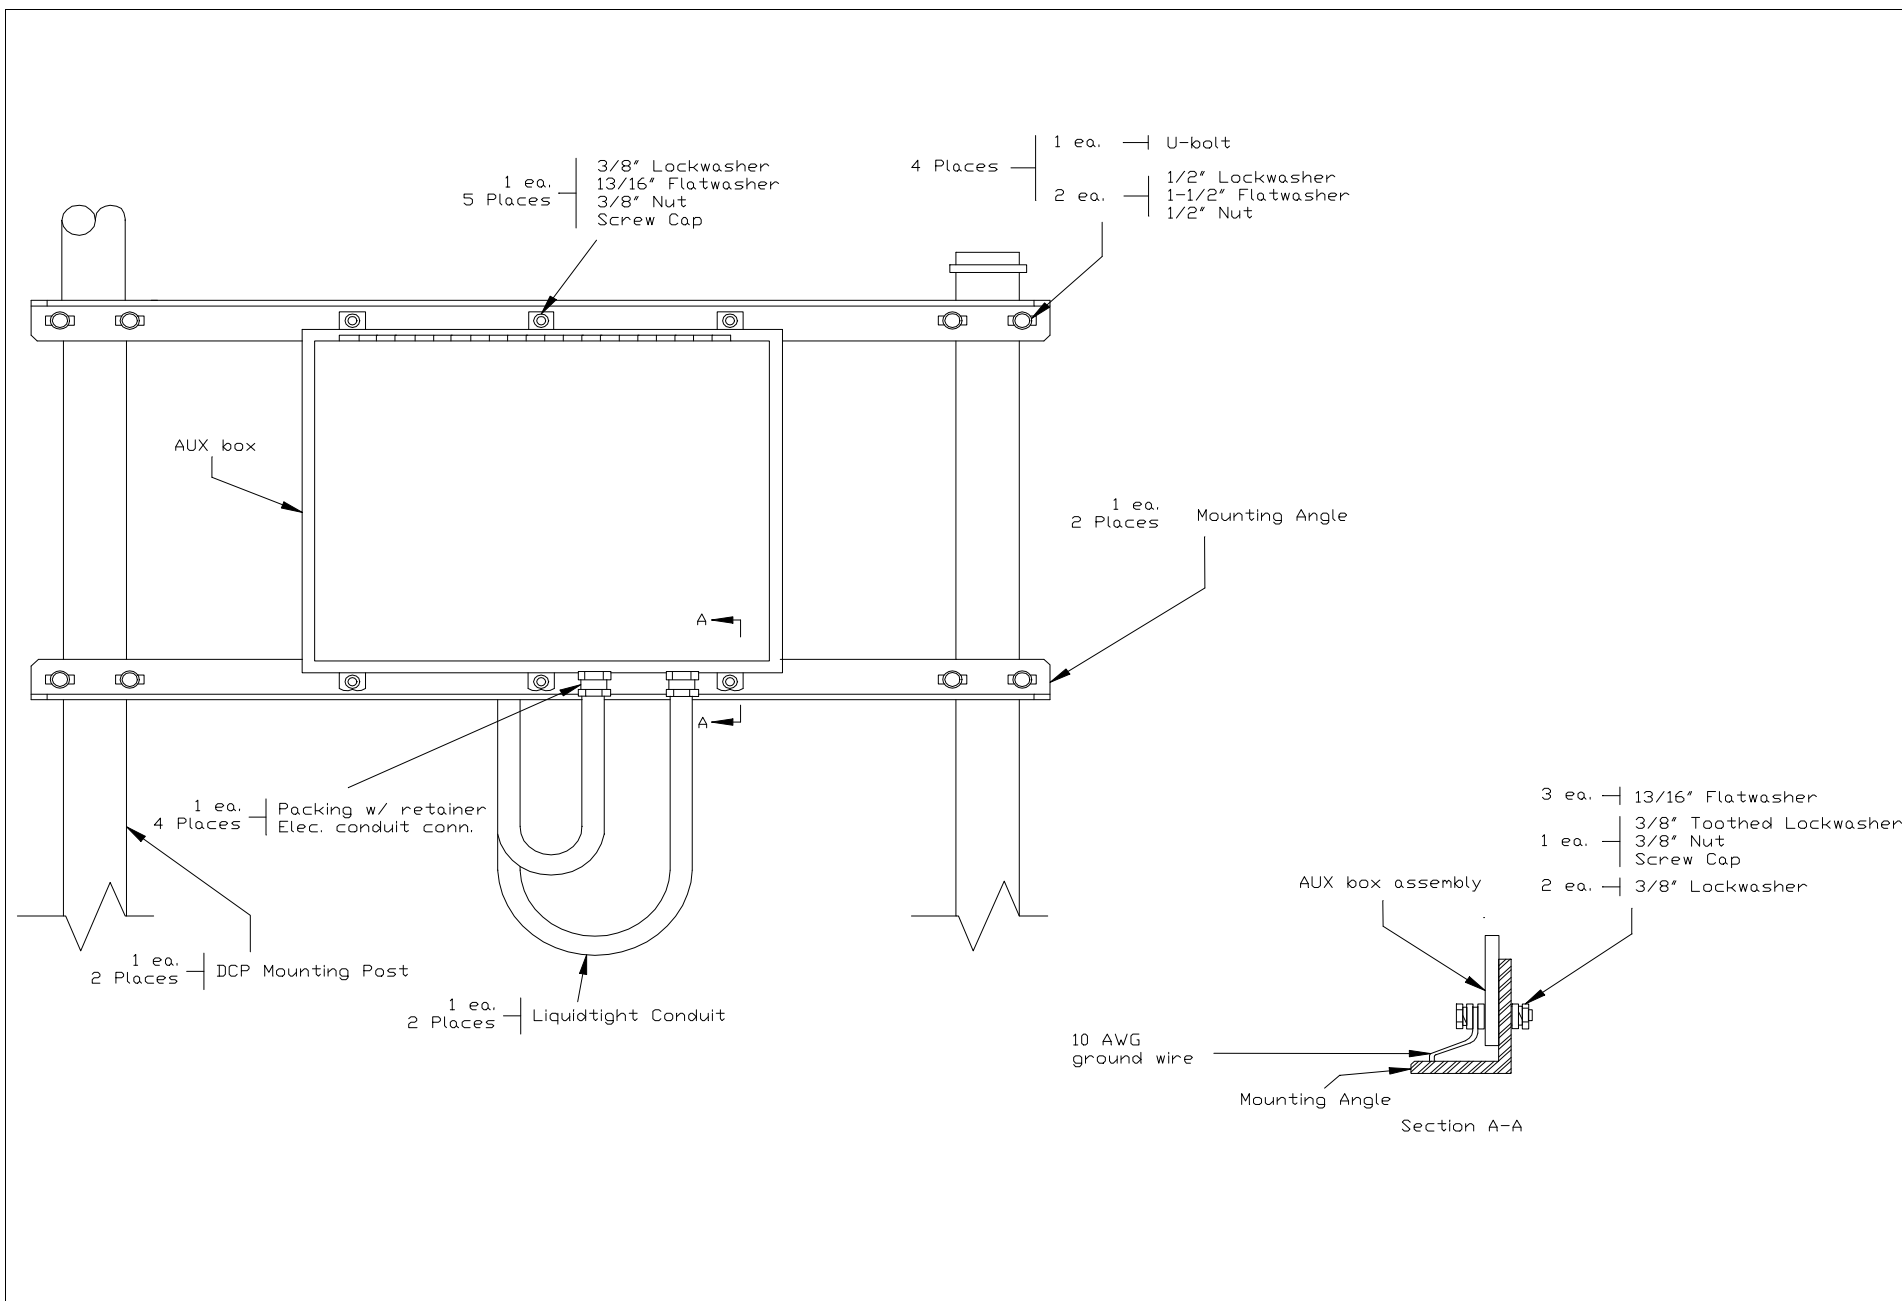

Figure 2 Auxiliary Box Installation
4. Install the AUX box on the DCP mounting poles directly behind the DCP enclosure. Refer to figure 2.
- a. Attach the 6-foot ground wire to the AUX box mounting hardware as shown in view A-A of figure 2, and attach the other end to the installation ground wire running below the DCP enclosure using the split bolt provided in the FMK.